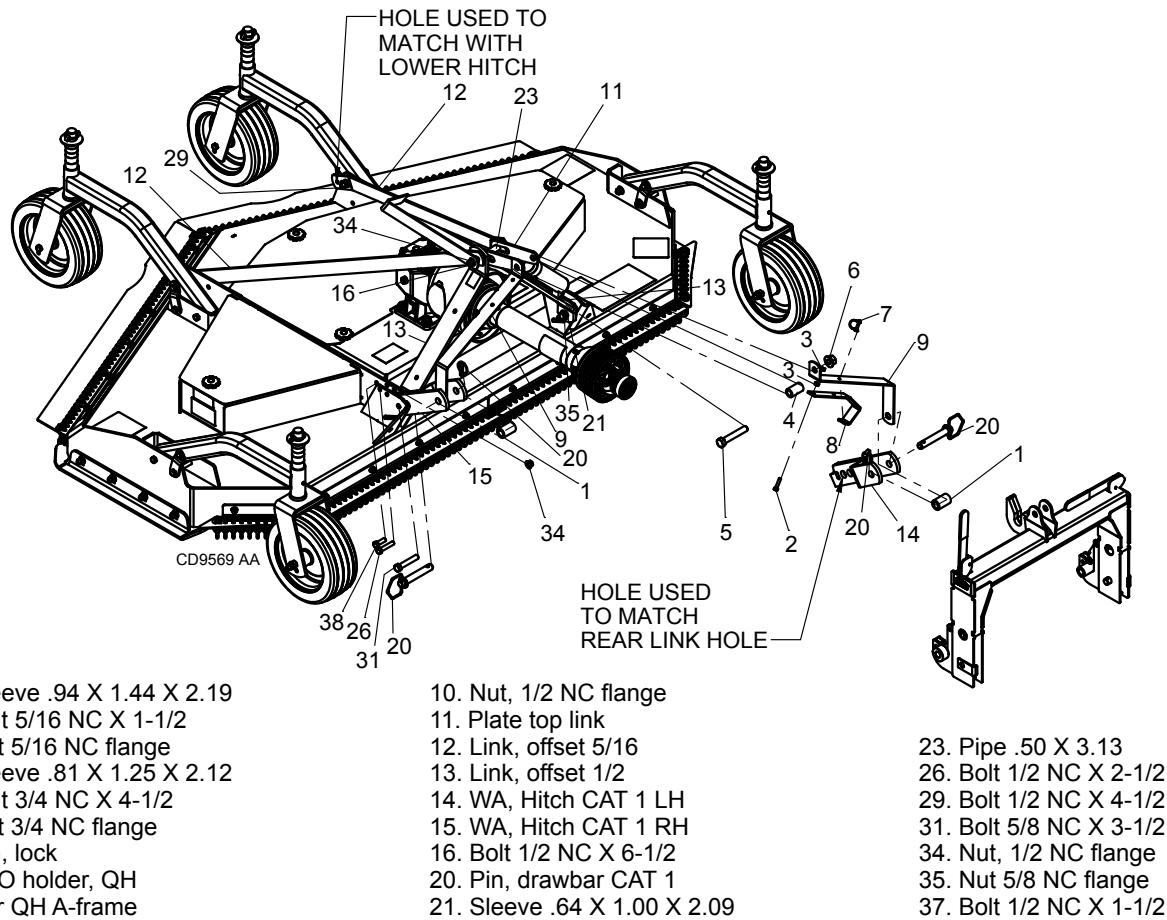

Figure 4. Quick Hitch Attachment (For CAT 2 see page 40 Figure 42)
(Figure 4)
14. Remove the safety pin (7) from the left QH bar (9) and swing the driveline hangar (8) in the storage position. Reinsert safety pin through QH bar and driveline holder to secure in place. (See Figure 4.)